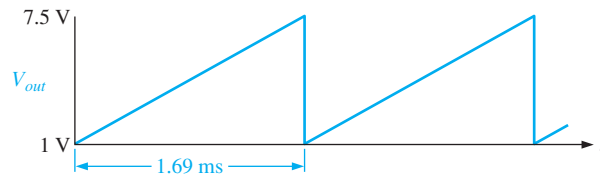

FIGURE 10–33 Output of the circuit in Figure 10–32.
- (b) The output waveform is shown in Figure 10–33. The period is
If R_i is changed to 56 k Ω in Figure 10–32, what is the frequency?
The basic square-wave oscillator shown in Figure 10–34 is a type of relaxation oscillator because its operation is based on the charging and discharging of a capacitor. Notice that the op-amp's inverting (–) input is the capacitor voltage and the noninverting (+) input is a portion of the output fed back through resistors R_2 and R_3 . When the circuit is first turned on, the capacitor is uncharged, and thus the inverting input is at 0 V. This makes the output a positive maximum, and the capacitor begins to charge toward V_{out} through R_1 . When the capacitor voltage (V_C) reaches a value equal to the feedback voltage (V_f) on the noninverting input, the op-amp switches to the maximum negative state. At this point, the capacitor begins to discharge from $+V_f$ toward $-V_f$. When the capacitor voltage reaches $-V_f$, the op-amp switches back to the maximum positive state. This action continues to repeat, as shown in Figure 10–35, and a square-wave output voltage is obtained.